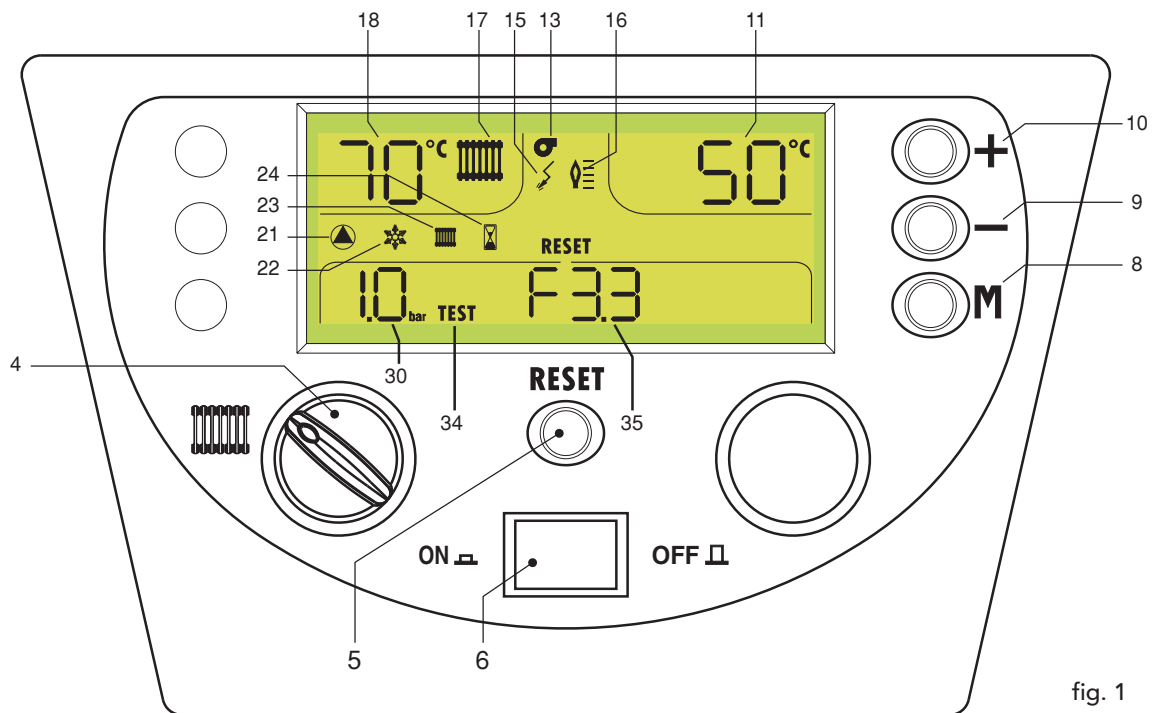

fig. 1
To reset the boiler, press Reset (5 - fig. 1).
- Press the ON/OFF key in to turn on boiler (see fig. 1 Item 6).
Press the ON/OFF key (see fig. 1 Item 6).
If together with the fault the display also shows RESET, the user must reset boiler operation by pressing the key (5 - fig. 1). The ignition cycle will thus be repeated.